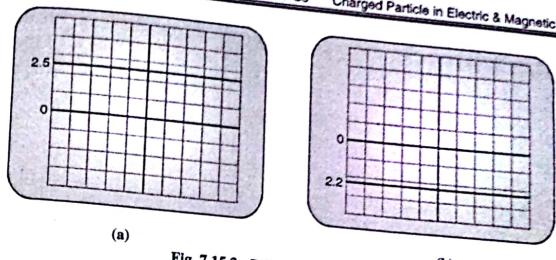

Fig. 7.15.2 : DC volts measurement
- (1) Initially the input coupling switch is kept in D.C. position. The trace on the screen is made to coincide with the central horizontal line of the graticule.
- (2) CRO probe connected to CH 1 on one end is made to connect to the power supply at the other end. Make sure that the red banana pin is connected to the positive terminal and black banana pin is connected to the negative terminal of the power supply.
- (3) The volt/div knob is kept at 1 volt/div. and the D.C. power supply is switched ON. The output voltage of power supply is varied and its effect on the trace is noted. The trace moves upward with increase in voltage and moves down with decrease in voltage.
- (4) The amount of deflection in terms of number of divisions on the graticule are noted. By multiplying it with the value at volt/div knob that is currently 1 volt/div. we get the value of the D.C. voltage. The measurement is illustrated in Fig. 7.15.2.